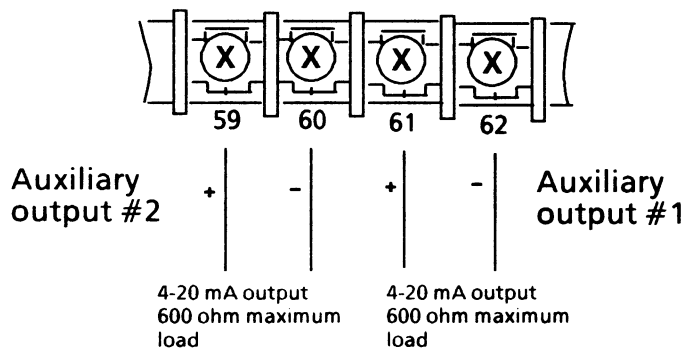

Figure 2-12 - Auxiliary (Recorder) outputs 1 and 2
| ● Auxiliary outputs (2) | Figure 2-12 |
- **Installation Section, Page 2-10, Figure 2-12** - Replace auxiliary output wiring diagram with the following diagram and change caption as noted.